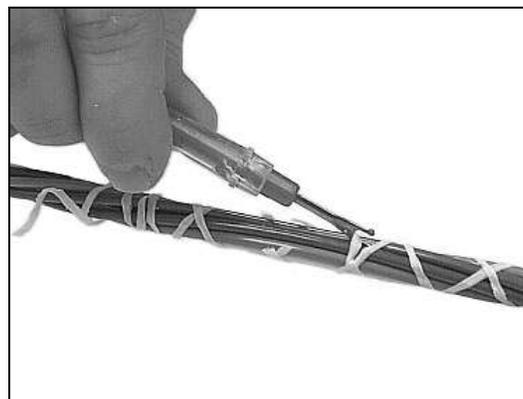

Figure 39 – Cut and remove the binder threads.
6.23 Cut and remove the binder threads from the cable core (Figure 39).